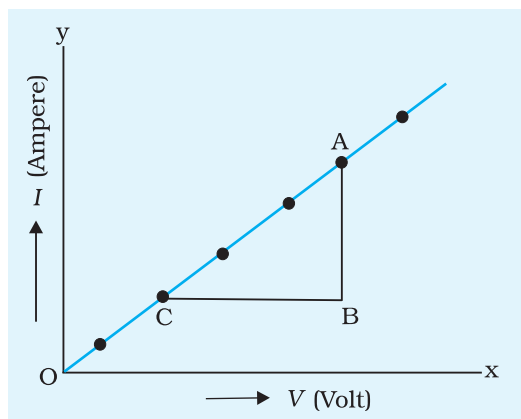

Fig. E 1.1 Graph between current I and potential difference, V
A linear relationship is obtained between V and I , i.e. the graph between V and I will be a straight line passing through the origin as shown in Fig. E 1.1. The slope of the graph is $1/R$ from Eq. (E 1.1) (Equation of straight line passing through origin is $y = mx$ where m is the slope of graph).
- Plot a graph between the potential difference across the wire (V) and the current (I) flowing through it as shown in Fig. E 1.1.